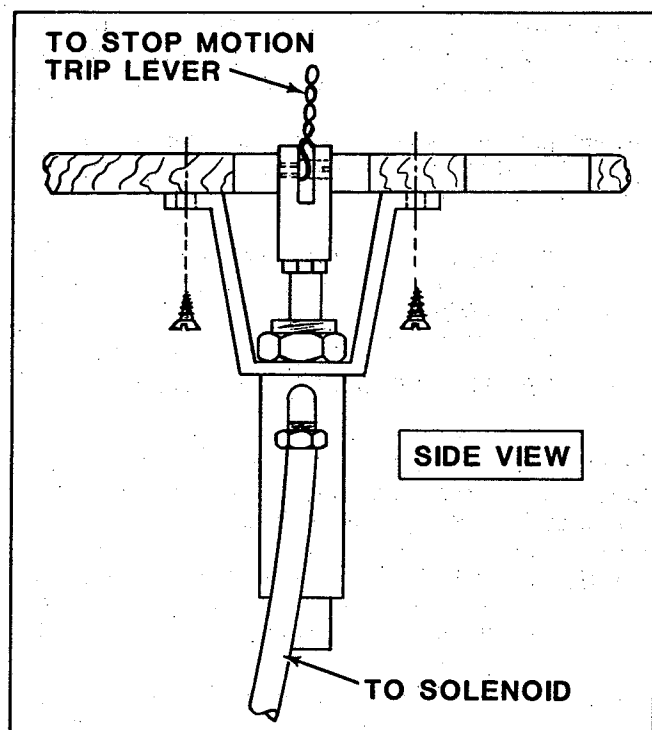

Fig. 8
- Mount and assemble the air cylinder directly under the stop motion trip lever on the machine (Fig. 8) connect chain from cylinder to trip lever.